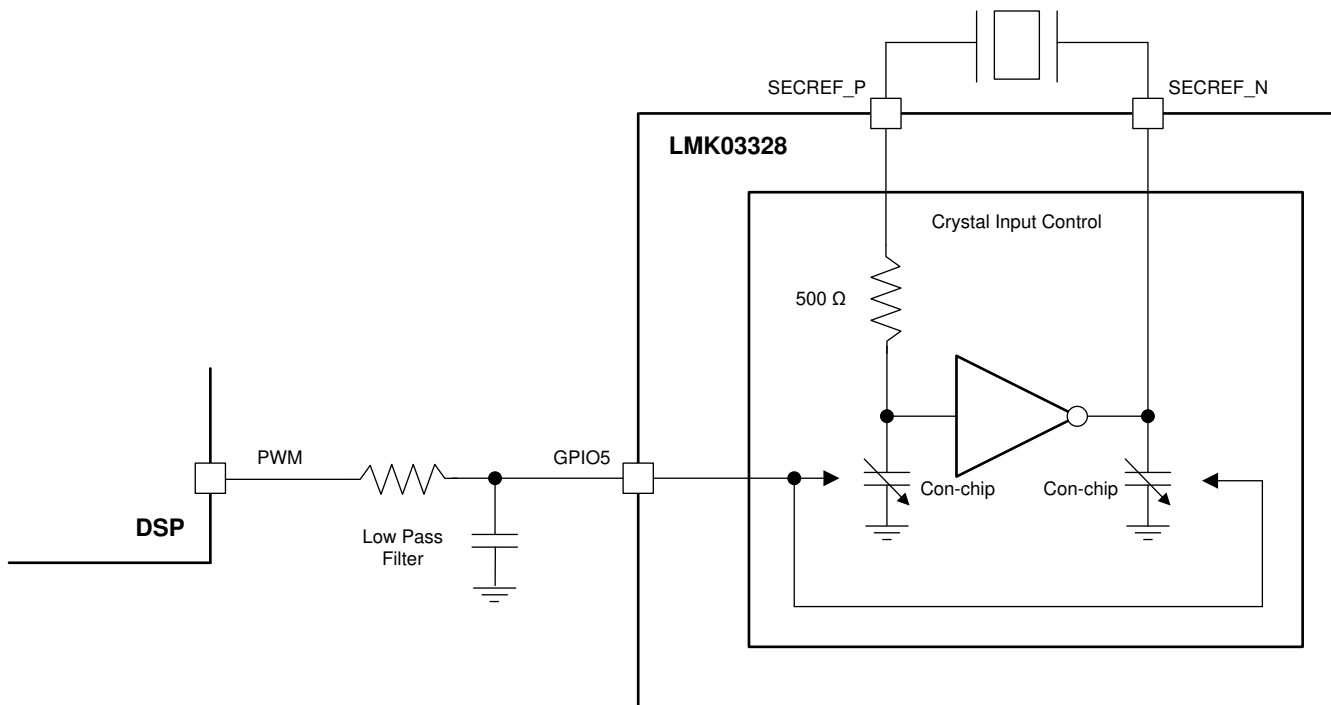

Figure 8-17. Crystal Load Capacitance Compensation Using PWM Signal
- The second method is using a low-pass filtered PWM signal to drive the 8-level GPIO5 pin as shown in Figure 8-17. The PWM signal can be generated from the frequency difference between a highly stable TCXO and the output of LMK03328 that is provided as a feedback into the GPIO5 pin and used to adjust the on-chip load capacitance on the crystal input to reduce frequency errors from the crystal. This is a quick alternative that produces a frequency error at the output of the LMK03328 and can be acceptable to any application when compared to a full-characterization with a chosen crystal to understand the exact load pulling required to minimize frequency error at the output of the LMK03328. More details on frequency margining are provided in Application and Implementation.